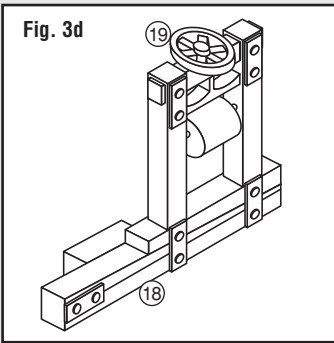

Fig. 3d
- Glue Hand Wheel (19) to Belt Tension Controller (18) (Fig. 3d).